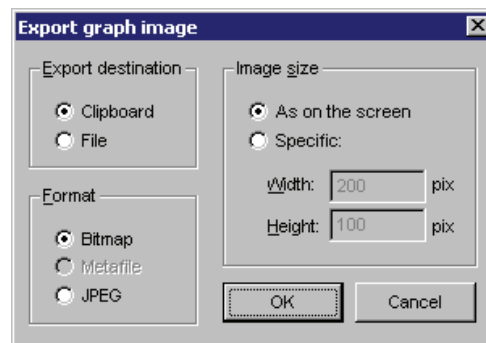

Figure 4-31. Export graph image Dialog
*Copy Special* is enabled when the *Oscilloscope* or *Recorder* graph is active. The command enables saving the graph image to the clipboard or to a file in a different format or size. The set-up dialog is shown in Figure 4-31.